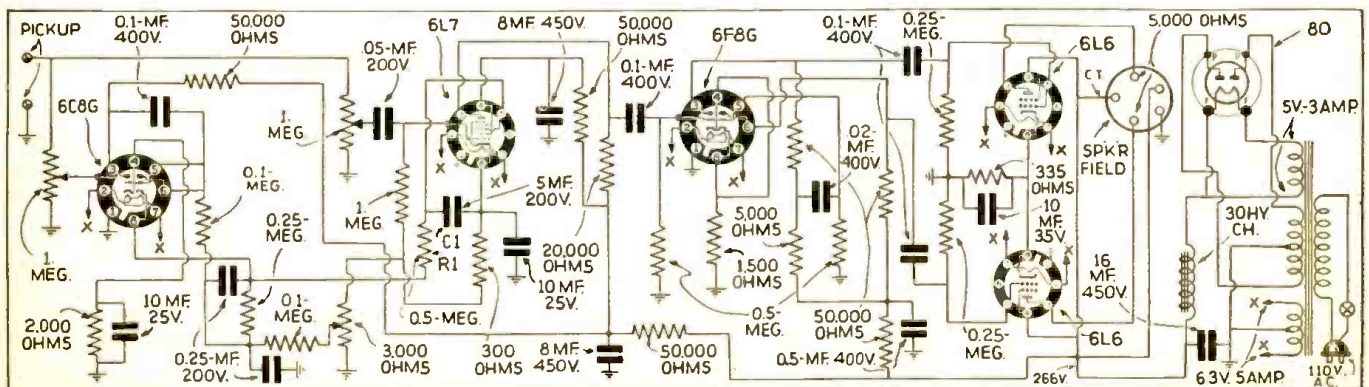
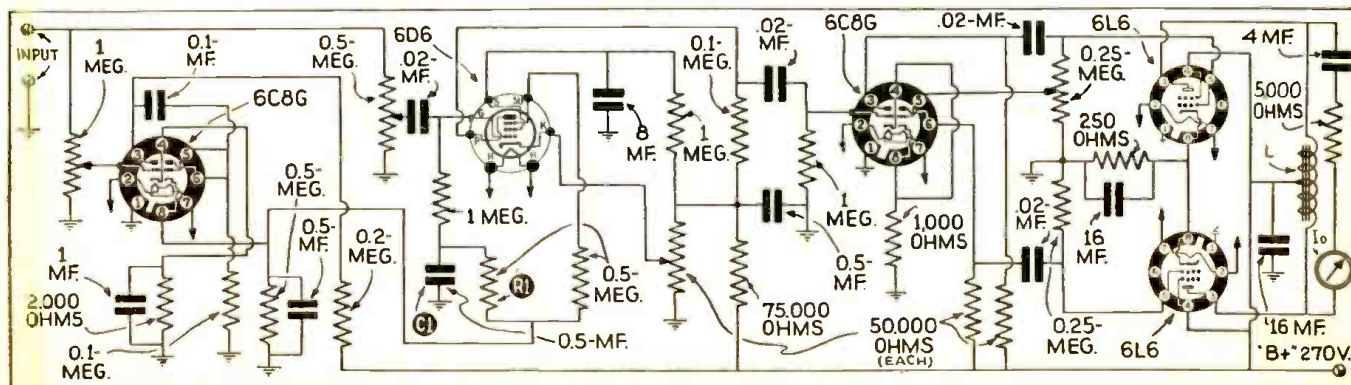

Fig. 3. By utilizing a type 6C8G tube the problem of microphonics is solved.
Fig. 4. This circuit, suggested by George Connors of Hygrade Sylvania, incorporates the 6D6 circuit shown in more detail in Fig. 3.
In the center of this sleeve is placed a tungsten heater element (A, in Fig. 3). The tungsten heater is the filament which heats up the nickel sleeve (B) or cathode. Over this
Those who have built amplifiers using this circuit have found that 6L7 is very critical and subject to microphonics. The *divider method* of obtaining the various tube voltages required high values of capacity to prevent inter-coupling between the following stages of the amplifier. In the attempt to "cure" microphonics the tube has been slung on floating sockets and in some cases completely enclosed in heavy shields to minimize acoustic coupling between the tube and the loudspeaker. *Most of the methods of floating and shielding were ineffective to say the least; so, a new electrical version of the circuit was developed.* This circuit—WHICH HELPED SOLVE THE "MICROPHONICS" PROBLEM—is shown in Fig. 3.
by George Connors of Hygrade Sylvania and involves the use of the remote cut-off characteristics of the 6D6 tube. The circuit of this system is shown in Fig. 4. The schematic of the rest of the amplifier is similar to Fig. 3 and was included because the curves of Fig. 5 and the distortion data covered later were made with this set-up.
Fig. 5. Performance characteristics of the expander amplifier (using a 6D6 as the expander tube) shown schematically in Fig. 4. Rectification occurs, under conditions of no-expansion, at cathode biases over 20 V. positive.